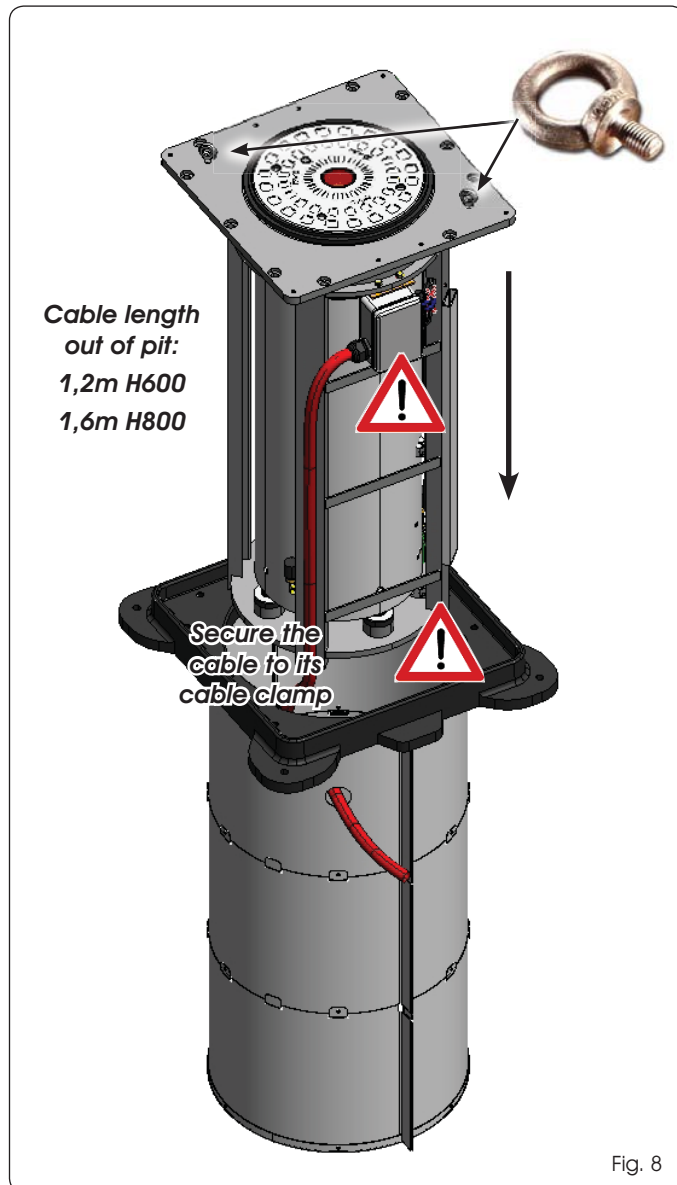

Fig. 8
**Take special care when positioning the cable between pit and bollard during the descent as well as to the junction box located on the bollard side (see fig. 8)**